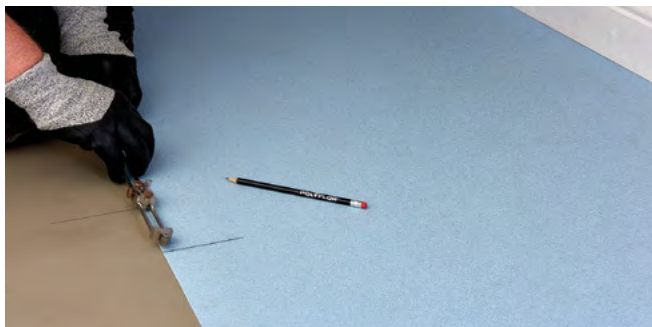

Figure 3.4 Setting the scribe
- ▶ Set the scribers to the distance now between lines C and D (Figure 3.4). Trace the end wall profile and cut to fit as described earlier.